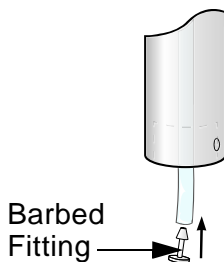

Figure B-2. Barbed Fitting
6. Push a barbed fitting into the end of the tubing (see Figure B-2).